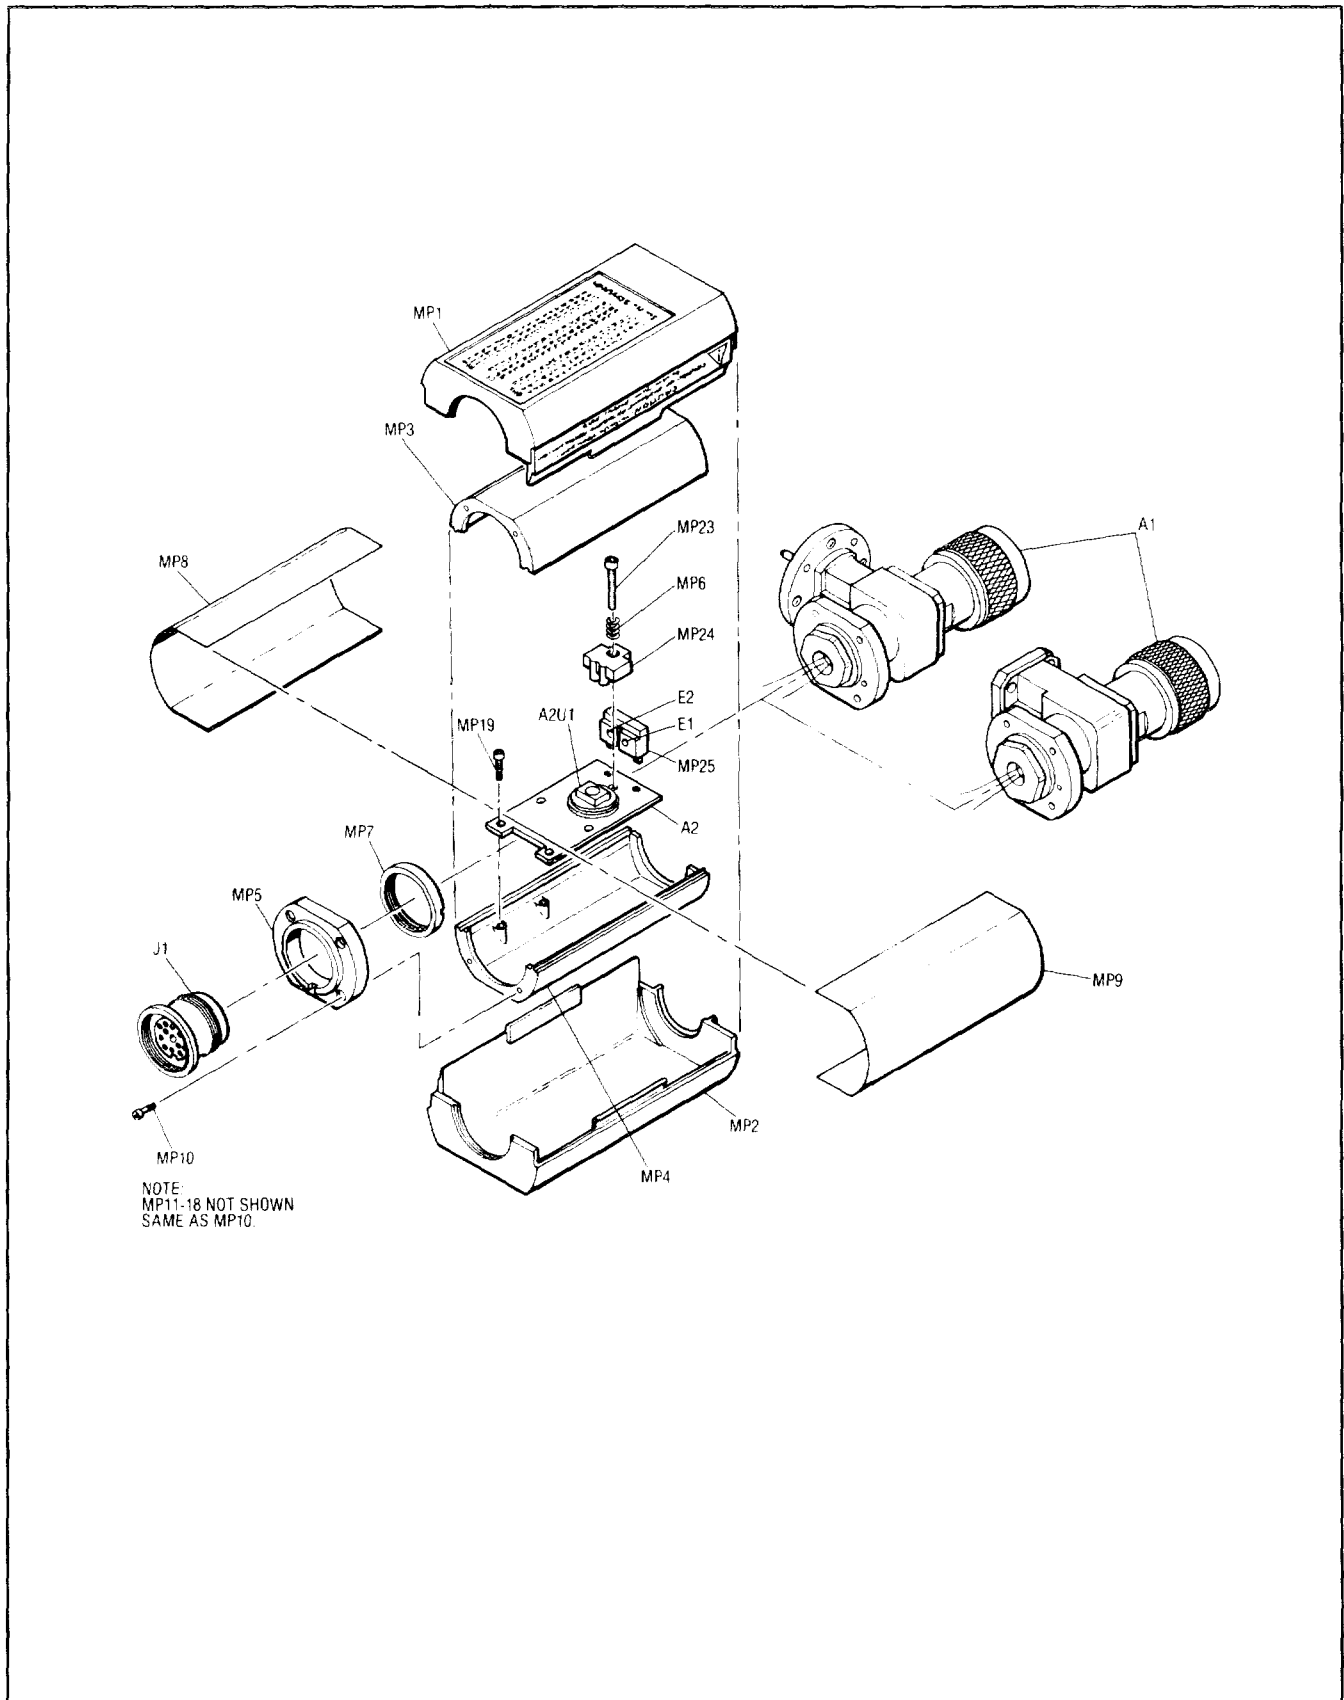

Figure 2. Illustrated Parts Breakdown
Table 6 is a list of replaceable parts. Figure 2 is the illustrated parts breakdown (IPB) that identifies the major assemblies and chassis parts. The mounting locations of the components on the A2 Input Amplifier Assembly are shown in Figure 3. To order a part, quote the Hewlett-Packard part num-
The rf signal is absorbed by the thermocouples¹ which generate a dc voltage proportional to the rf input power. The dc voltage is routed from the thermocouples to the input amplifier on gold wires to reduce undesired thermocouple effects. The gold wires pass through ferrite beads A2E1 and A2E2 which are located in the black plastic block. (See Figure 2). The ferrite beads increase the self-inductance of the gold wires causing this portion of the wires to provide the properties of an rf choke. The result is to minimize rf feedthrough to the A2 Input Amplifier Assembly.
b. Insert cap screws (8), (9), (11), (12), (14), and (15) but do not tighten.
c. Center A2 circuit board so there is equal air gap between each side and chassis. Tighten cap screws (8), (9), (14), and (15).
d. Remove black plastic block (17) from printed circuit board. Position bulkhead assembly with small hole (5) on your left; position block (17) with flat side towards bulkhead assembly (grooved side out), and guide pins down. Insert gold wires through holes in block (17) (MP25, Figure 2).
e. Set bulkhead assembly straight down on chassis. Mate two guide pins on block (17) with two holes in printed circuit board (Figure 2).
2. Tighten screw (7) to point where power meter indicates normal reading, yet short of completely collapsing the spring.
i. Loosen screws (3) and (4). Insert screw (6) and tighten.
j. Place upper chassis in position and insert cap screws (1), (2), (10), and (13).
k. Tighten screws (1), (2), (3), and (13).
l. Tighten screws (10), (11), (12), and (13).
m. Replace magnetic shields and plastic shells as shown in Figure 2. Snap plastic shells together.